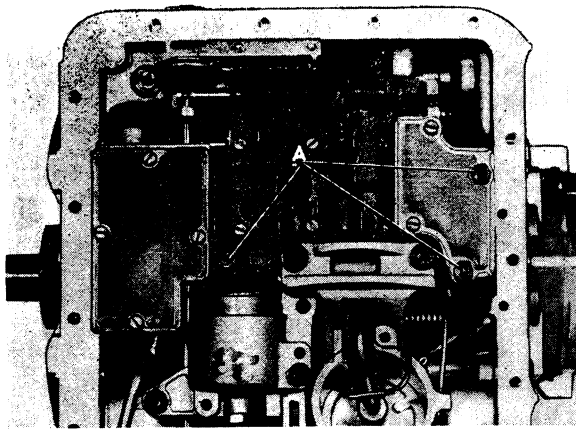

Fig. 4-72. Valve bodies assembly
4. Disconnect the downshift valve cable from the downshift valve cam. Unscrew the three screws which retain the valve bodies assembly to the gearbox housing, see Fig. 4-72. Lift the valve bodies assembly straight up so that it releases from the oil tubes at the front end.